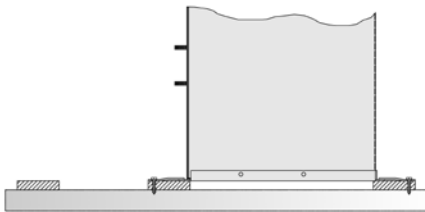

Figure 4: Bare Boiler on Skid
1. Remove and discard four boiler-to-skid hold down fasteners. Refer to Figure 4.